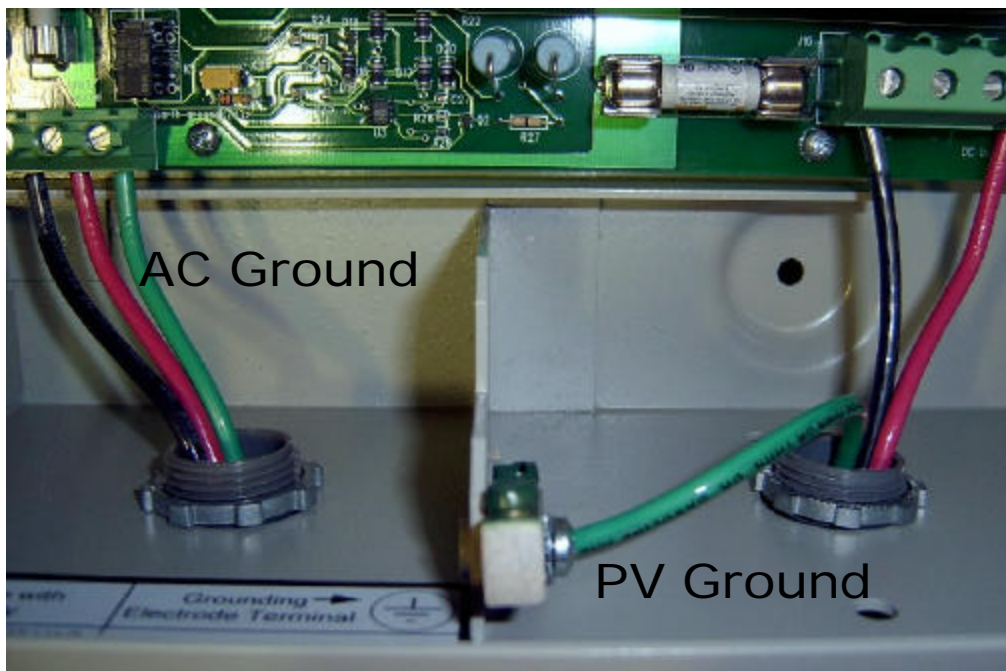

Figure 7: AC and PV Grounding
- ◆ A single point ground connection is located in the lower right hand side of the StarInverter cabinet. The PV panel grounding wire is terminated there. The AC ground connection is terminated next to the Line and Line 2/Neutral connections on the circuit board. The PV ground is bolted to the cabinet with a ¼-20 bolt. (Refer to Figure 7.)